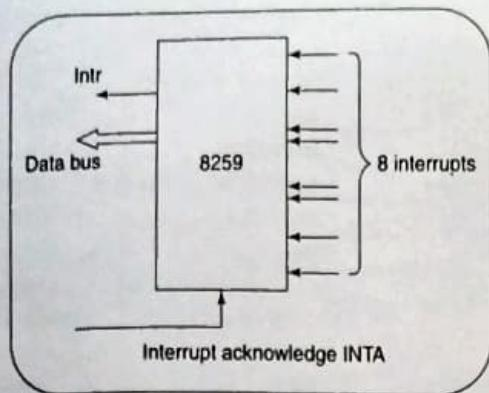

Fig. 2.7 8259 Interrupt Controller
is masked or not. If the current interrupt has higher priority and is unmasked, that interrupt is serviced. For servicing the interrupt, the 8259 will send INTR signal to 8085. In response to this INTR, when 8085 accepts this interrupt, it sends three INTA/ signals one by one to 8259. In response to the first, second and third INTA/ signals, 8259 supplies CALL opcode, low byte of call address and high byte of call address respectively. When the 8085 receives the CALL opcode and 16-bit address, it saves the program counter contents (PC) in stacks, and loads the CALL address into PC. Consequently, 8085 starts executing the corresponding interrupt service routine. This is how external interrupts are handled. 8259 can be cascaded to accept a maximum of 64 interrupts and can also be used with the 8086 microprocessor. Figure 2.7 shows the 8259 diagram with all the input and output signals.